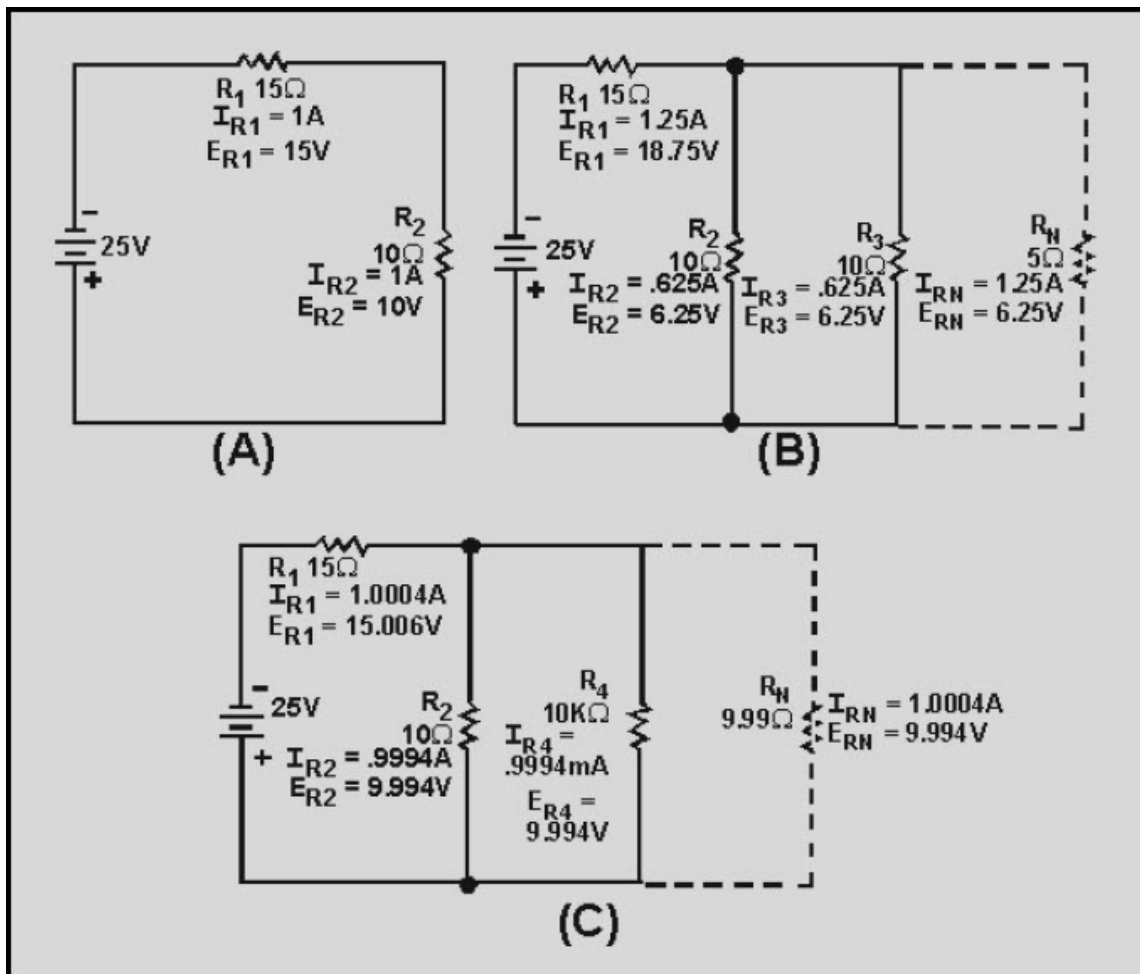

Figure 1-26 The loading effect
A voltmeter has an effect on the circuit being measured. This is called **LOADING** the circuit. Figure 1-26 illustrates the loading effect and the way in which the loading effect is kept to a minimum.
In figure 1-26(A), a series circuit is shown with R_1 equaling 15 ohms and R_2 equaling 10 ohms. The voltage across R_2 (E_{R_2}) equals 10 volts. If a meter (represented by R_3) with a resistance of 10 ohms is connected in parallel with R_2 , as in figure 1-26(B), the combined resistance of R_2 and R_3 (R_n) is equal to 5 ohms. The voltage across R_2 and R_3 is now 6.25 volts, and that is what the meter will indicate. Notice that the voltage across R_1 and the circuit current have both increased. The addition of the meter (R_3) has loaded the circuit.
In figure 1-26(C), the low-resistance meter (R_3) is replaced by a higher resistance meter (R_4) with a resistance of 10 kilohms. The combined resistance of R_2 and R_4 (R_n) is equal to 9.99 ohms. The voltage across R_2 and R_4 is now 9.99 volts, the value that will be indicated on the meter. This is much closer to the voltage across R_2 , with no meter (R_3 or R_4) in the circuit. Notice that the voltage across R , and the circuit current in figure 1-26(C) are much closer to the values in 1-26(A). The current (I_{R_4}) through the meter (R_4) in figure 1-26(C) is also very small compared to the current (I_{R_2}) through R_2 . In figure 1-26(C) the meter (R_4) has much less effect on the circuit and does not load the circuit as much. Therefore, a voltmeter should have a high resistance compared to the circuit being measured, to minimize the loading effect.